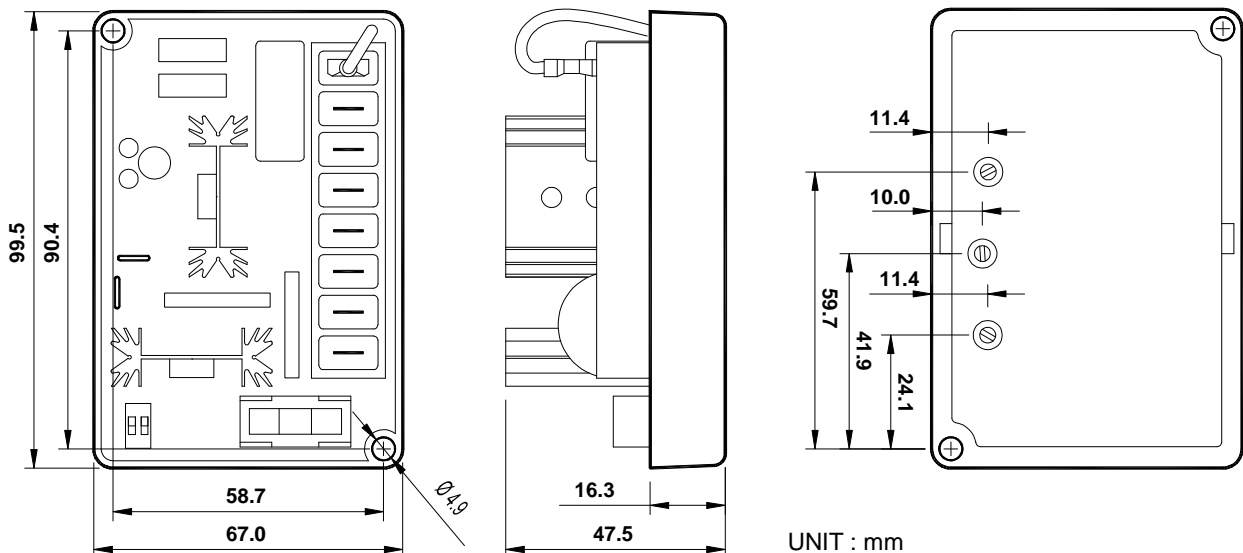

Figure 1 Outline and Drilling Diagram
### FREQUENCY COMPENATION (See Figure 1)
1. The frequency compensation characteristic of Figure 1 used to improve system load pickup performance by restraining voltage recovery until frequency has also started to recover.